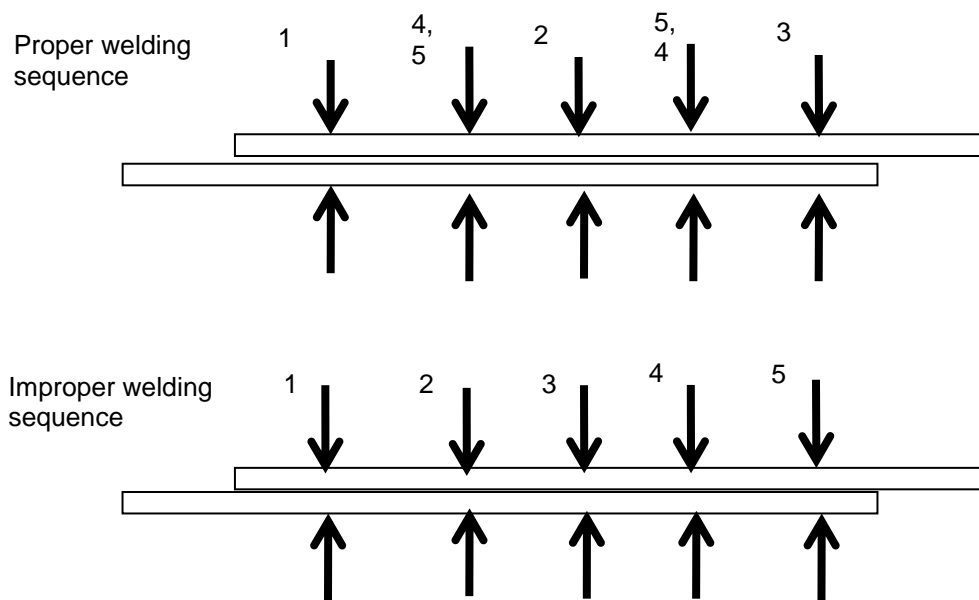

Figure 1: Proper and improper welding sequence
**Passage 5 and Figure 1** below are taken from instructions about squeeze-type resistance spot welding. Together they make the directions clear to the reader.
**Spotting sequence:** Do not spot continuously in one direction only (See Figure 1). This method results in weak welding because of the shunt effect of the current. If the welding tips become too hot, the tips will change colour. If this occurs, stop welding and let them cool. Note: It is important memorize this welding sequence.
**Figures 1, 2 and 3** show in a clear sequence what happens to the metal bar at the different stages. The passage adds information about the process. The diagrams illustrate the same information so that the process is easier to understand and remember.
When answering questions about sequence, whether in written material or in diagrams, go back through the passage. Find the appropriate place and read each step. You may have to trace the steps with your finger while your eyes move back and forth between diagram and passage. You might have to read the section several times to make sure you have the correct match. In some cases, there may be steps that are almost the same. But as shown in **Figure 1**, “almost the same” usually won’t get you correct results.